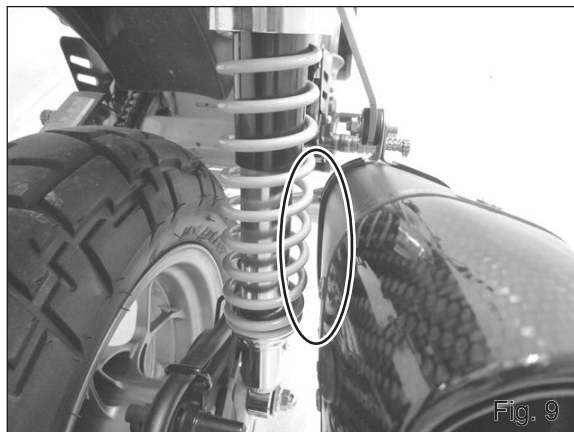

Fig. 9
- 7) Check that there are proper clearances between Yohimura Exhaust System and other components, and adjust the position and angle of Silencer Assy. Then, tighten and torque stock nuts on flange, Cap Bolt M8x30 and U-Nut M10 on Silencer Bracket in order (See Fig. 9 & 10)